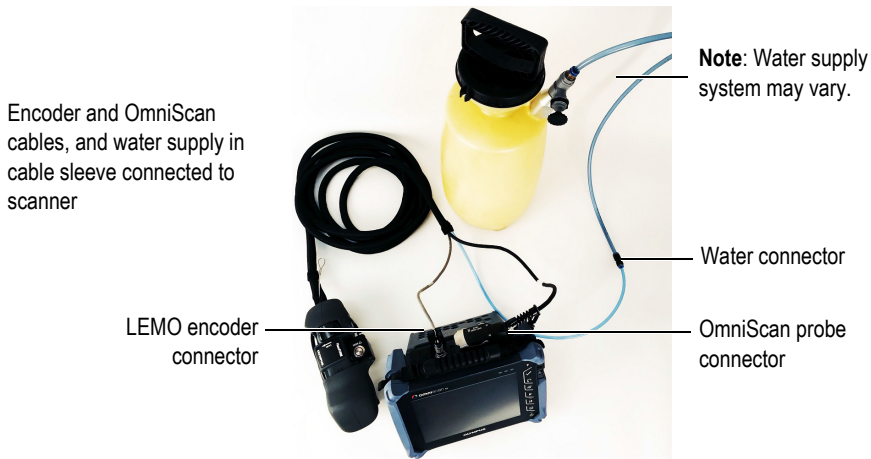

Figure 2-4 Scanner connections example
1. Connect the LEMO encoder cable to the OmniScan instrument (see Figure 2-4 on page 24).